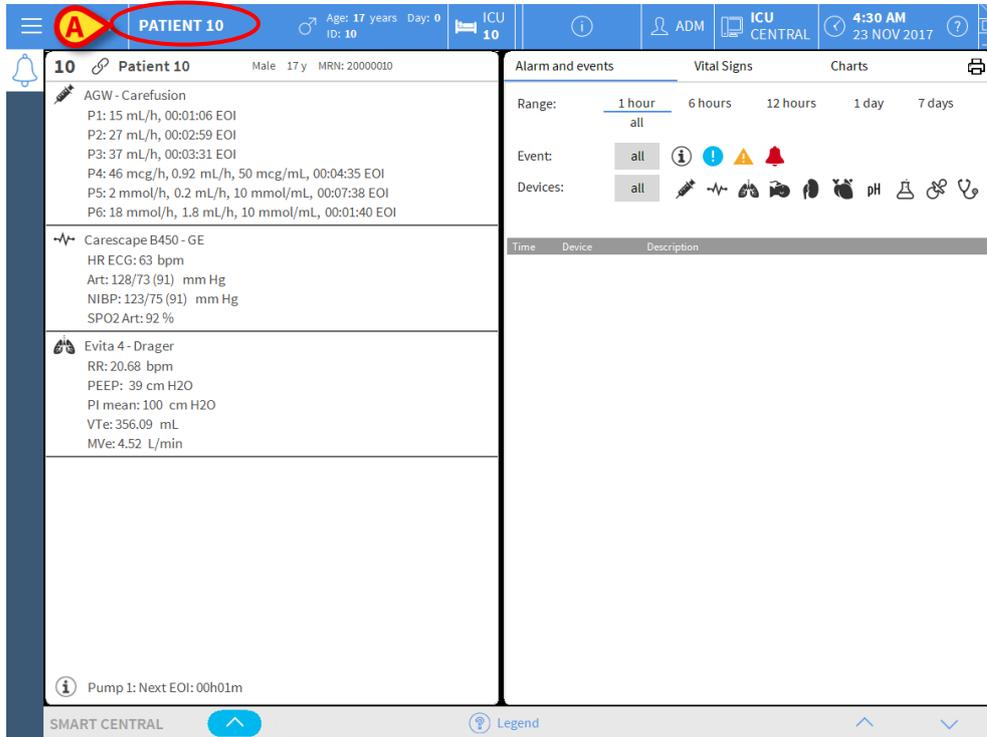

Fig 96
- Click **Yes** to admit the patient. The Smart Central screen related to that patient is then displayed. A temporary name is automatically assigned (Patient 10 - Fig 96 A)